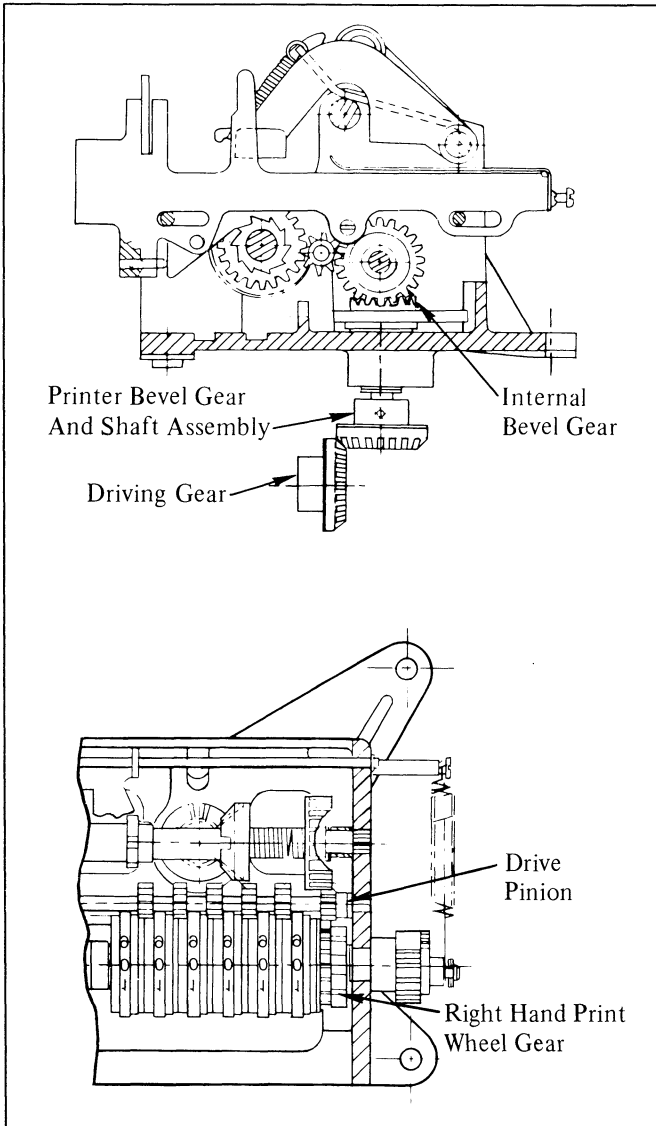
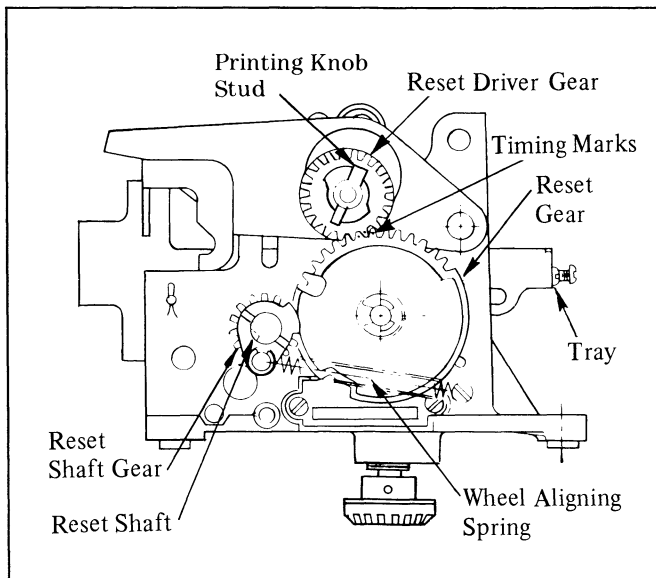

Figure 2. Drive Train (Zero Start)
Figure 3. Reset Train (Zero Start)
1. **Drive.** The shaft, Figure 2, on the bottom of the printer is driven by a bevel gear from a meter register or other equipment. The printer's bevel gear and shaft assembly turns in a counterclockwise direction. The internal bevel gear on the shaft drives the clutch assembly, associated pinions and the gear assembly of the right-hand print wheel.
2. **Reset.** During printing operation, the print wheels, Figure 2, are reset to zero through rotation of the reset gear train and reset shaft, Figure 3. During the "Print In" cycle, one complete clockwise revolution of the reset drive gear turns the reset shaft gear and reset shaft to reset the print wheels to zero.
- a. As the printing knob is turned, the reset drive gear, Figure 3, makes one complete clockwise revolution until a positive stop is reached. As the ticket tray moves into position, the seal pin pierces the ticket, holding it in place. This initial printing is made with wheels at zero.